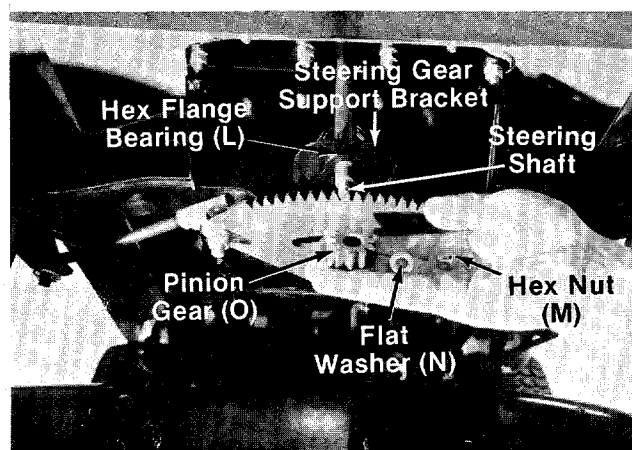
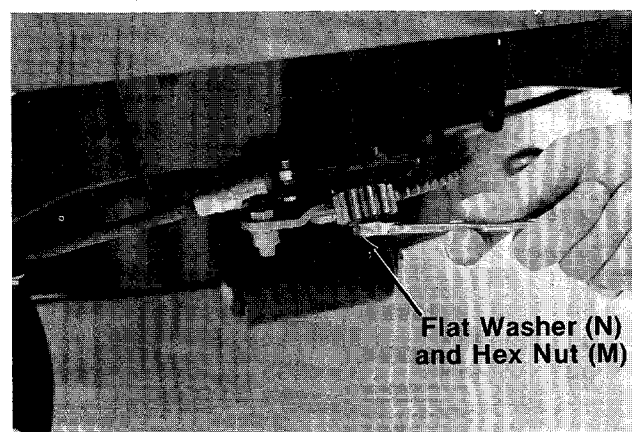

FIGURE 7.
FIGURE 8.
8. Insert the **steering shaft** with assembled parts through the **steering housing cover**. The lower end of the shaft should extend through the hole in the front end of the **steering gear support bracket** (Ref. No. 12 on page 30). See figure 7.
10. Place the remaining **hex flange bearing (L)**, flat side down, over the end of the **steering shaft**, and seat it into the **steering gear support bracket**. See figure 7.
11. Position **pinion gear (O)** over splined collar on **steering shaft**. Then place **flat washer (N)** ($\frac{5}{8}$ " diameter) on shaft and secure with **hex nut (M)** ($\frac{5}{16}$ " I.D.). Do not tighten at this time.
13. Now tighten the **hex nut (M)** which secures the pinion gear. See figure 8.